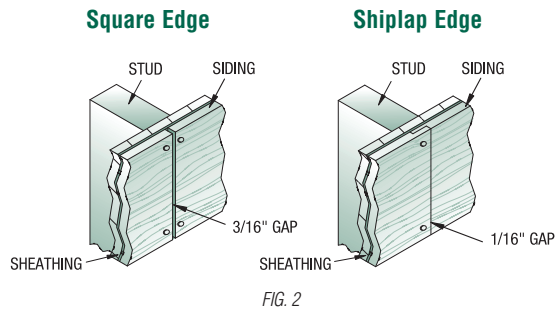

FIG. 2
- Leave 3/16" gap at all butt joints, around all doors and window frames, and at joints in the soffits for all lap and square edge siding products. Caulk all gaps. See Fig 2.
- For all **shiplap edge** panels, there should be a 1/16" gap between the underlap edge and the next panel. An alignment ridge helps with this placement; do not force the edge of the panel over this ridge. See Fig 2. (NOTE: For Adobe panels, the shiplap edge will be visible unless a batten strip is used to cover it).
- For all **square edge** panels, there must be 3/16" gap at the vertical joint. This gap must be caulked; it is recommended to cover the joint with a wood batten (nailed 12" o.c.). TruWood Trim is recommended for batten material. See Fig 2.